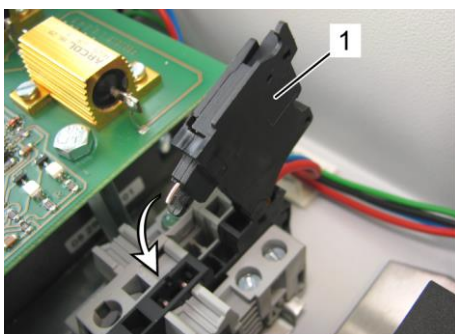

Fig.107: Power switch
3. If not so close the power switch (Fig.107/1).